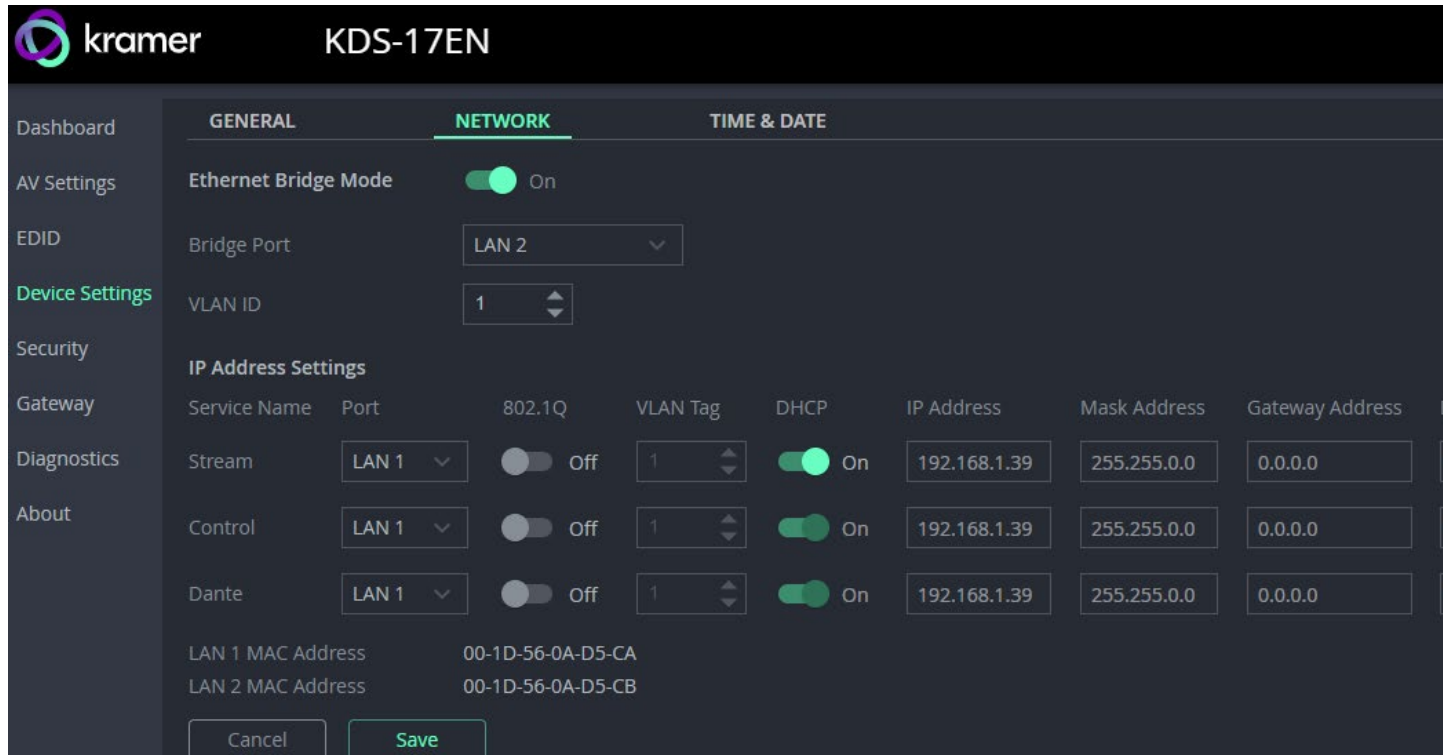

Figure 20: Device Settings pane – Network Tab
1. Change the following settings in the **IP Address Settings** section of the **Network** tab (see Figure 20 for more information):
2. In the KDS-17EN **Device Settings** pane, open the **Network** tab (see Figure 20):